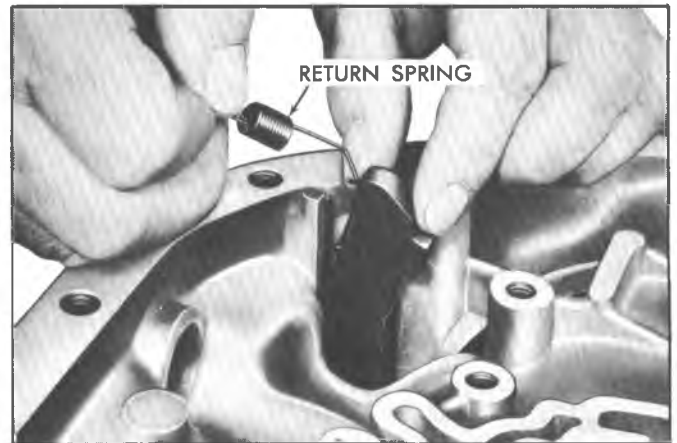

Fig. 20T--Removing Parking Pawl Return Spring
6. Remove parking pawl return spring (fig. 20T).